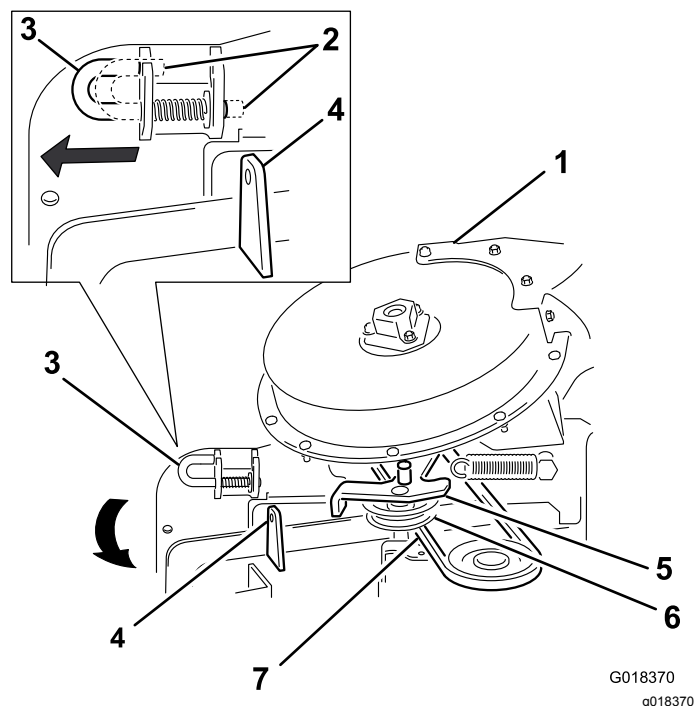

Figure 38
6. Move the latch pin from the locking position to the open position (Figure 38).
7. Close the blower assembly and align the latch pin with the hole in the chute bracket (Figure 38).